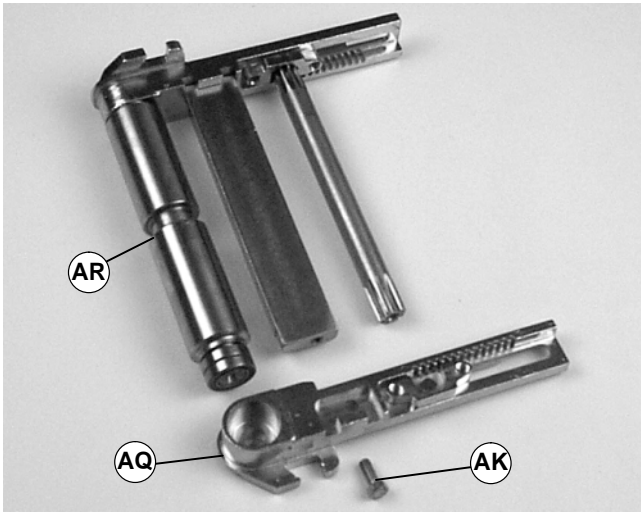

Figure 32
4. Remove screw (AK of Figure 32).
5. Remove screw (AK of Figure 32).
6. Remove headplate (AQ).
7. Remove pulley (AR).